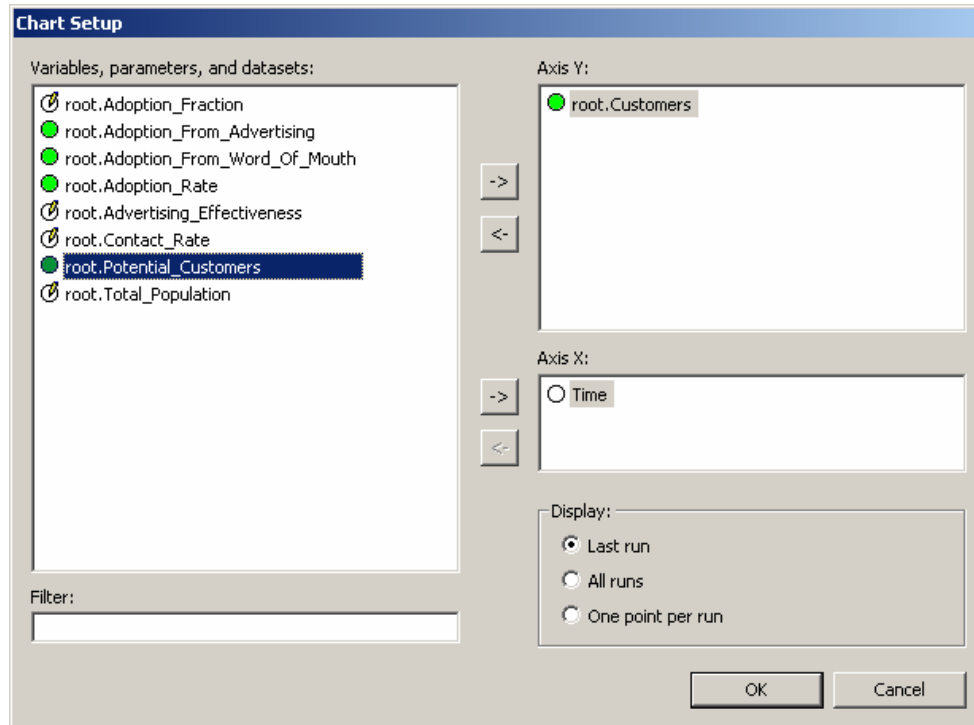

Figure 33. Chart Setup dialog box
1. Right-click the chart window and choose *Chart Setup...* from the popup menu. The *Chart Setup* dialog box is displayed (see Figure 33).